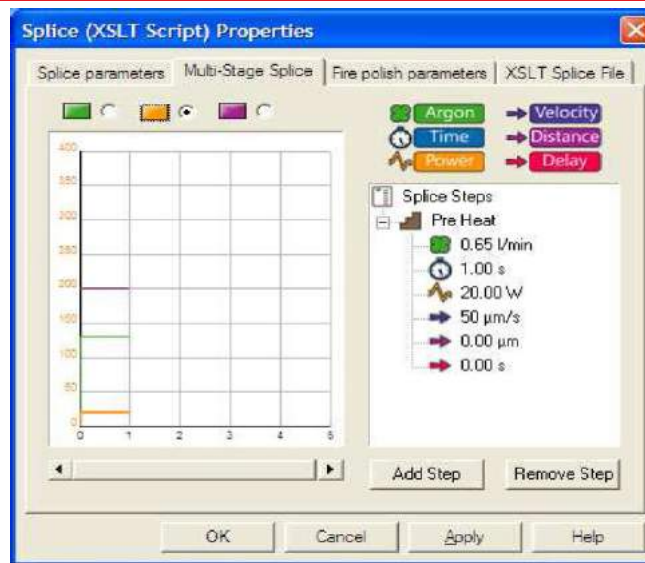

Figure 32 Sample Stage
- Set the parameters to perform the process that is required. For example, a preheat step might be setup as shown in Figure 32.